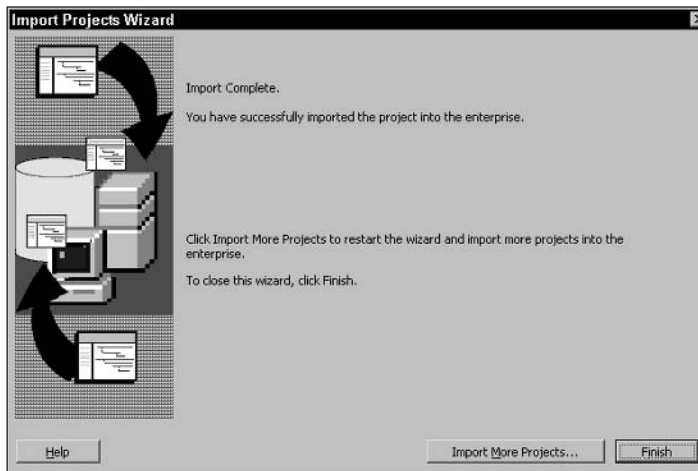

Figure 19-39: After importing a project, the wizard enables you to import additional projects.
9. When the wizard completes the import, you see the screen shown in Figure 19-39. Choose to import more projects, or click the Finish button.